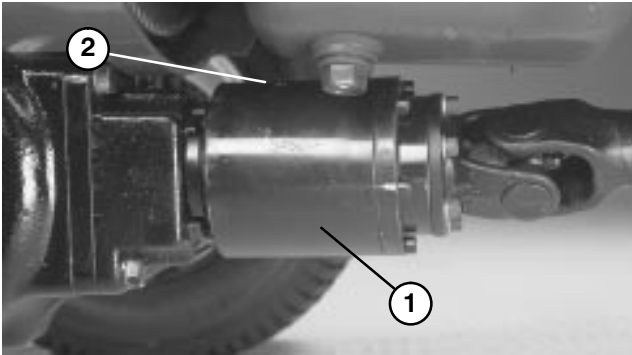

Figure 69
3. Rotate clutch so check plug is positioned downward (Fig. 69).